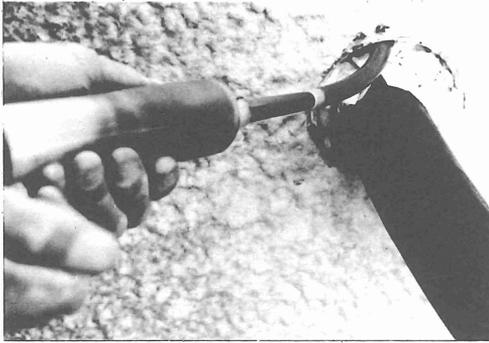

FIGURE 21
9.03 Mix a cartridge of compound. Screw the cartridge onto the nozzle, wait until foaming starts, then inject. Leave the cartridge in place until foaming stops. Trim excess tubing. (see Figures 21 and 22)